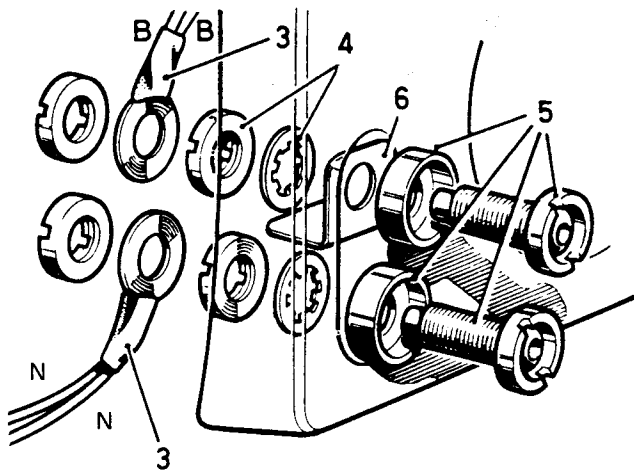

Fig O5.13
- (3) Refer to Fig O5.13. Disconnect the electrical leads (3) from the sockets.
- (4) Remove the screw lock rings, shakeproof washers (4) and insulation tab (6).
- (5) Withdraw the sockets (5).